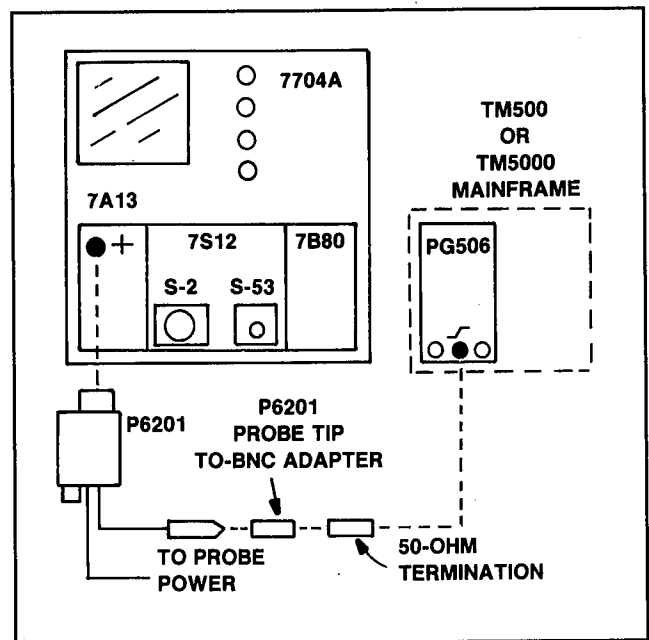

Fig. 5-3. Setup for testing with real-time oscilloscope.
- a. Connect the P6201 and equipment as shown in Fig. 5-3.
- a. Connect the P6201 and equipment as shown in Fig. 5-3 with the P6201 10X (or 100X) attenuator on the probe tip.